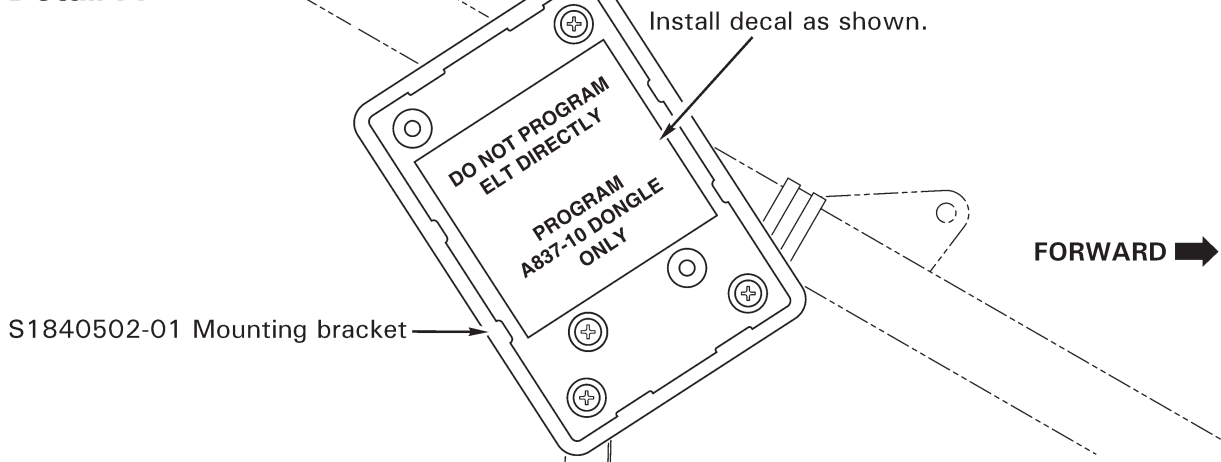

FIGURE 3
7. Refer to Figure 3. Install S1840502-01 ELT mounting bracket using C837-5 angle, clamps, and hardware. Affix F654-25 decal onto face of bracket per Figure 3, Detail A.
13. Refer to Figure 3. Position F837-4 doubler on C706-1 tailcone cowling interior at dimension shown and flex doubler to match cowling contour.
14. Refer to Figure 3. Discard gasket supplied with AV-300 antenna. Install AV-300 antenna in the 0.875 inch diameter hole using hardware as shown. Seal around base with B270-1 sealant. Seal over screw heads and holes with B270-13 sealant. Install tailcone cowling.
15. Refer to Figure 3. Connect KI-179-2A antenna cable to antenna, route cable to ELT mounting bracket, and secure cable to frame with ty-raps.
18. Refer to Figure 3. Install ELT transmitter on mounting bracket with supplied hook & loop fastener strap. Secure ELT using MS3367-6-0 ty-rap. Ensure clearance exists between ELT installation and drive train.